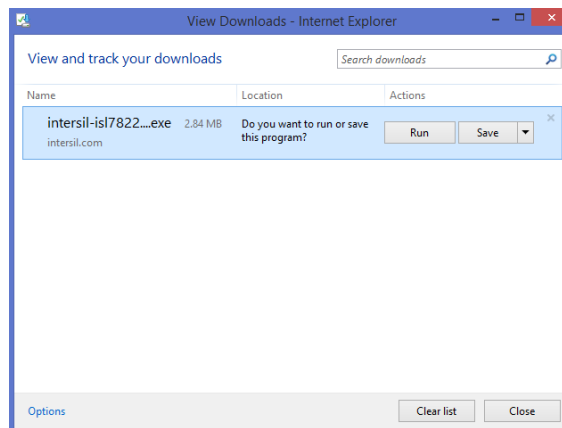

Figure 6. Download Screen
- (1) Download the software from the Renesas website. The screen in Figure 6 appears.